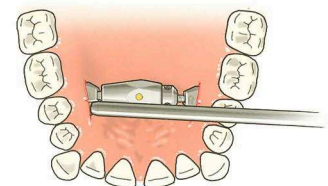

Fig 6
- 6 Once the distraction module is in horizontal position, tighten rigidly both osteosynthesis screws by using the external screwdriver insert (Ref 99-910S) mounted in its handpiece (Ref 99-901A) (Fig 6).